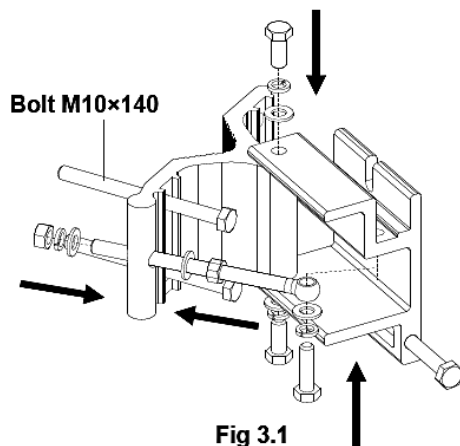

Fig 3.1
**Step1:** Connect Y Type and E Type Extruded Profile with two M10×25 bolts, and then put two M10×140 bolts in the mounting hole of Y Type Extruded Profile (show in Fig 3.1).